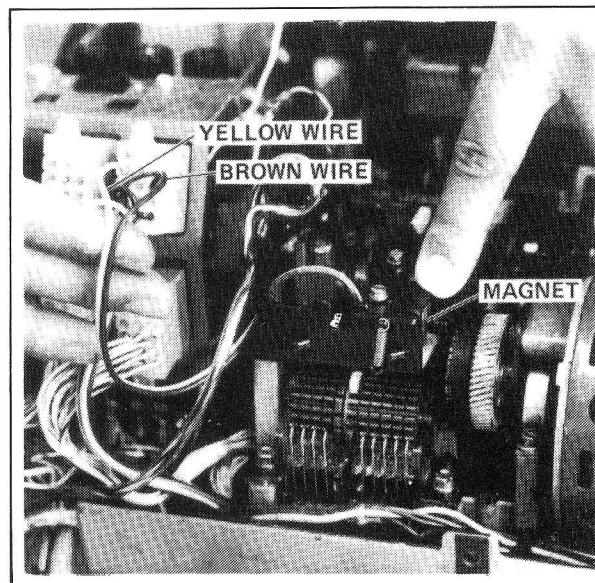

Figure A-7. Distributor Trip Magnet
- b. Disconnect brown wire shown in figure A-7 from plastic connector. Connect this brown wire to terminal 12 on mode switch. (Brown wire will have to be extended.)